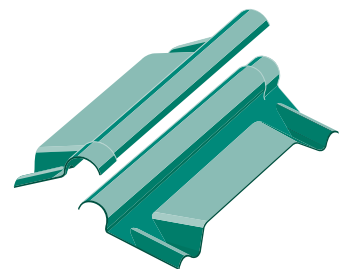

Fig.6 Two piece ventilating ridge piece
- two piece ventilating ridge: free air area 33,670mm² per pair (Fig.6)